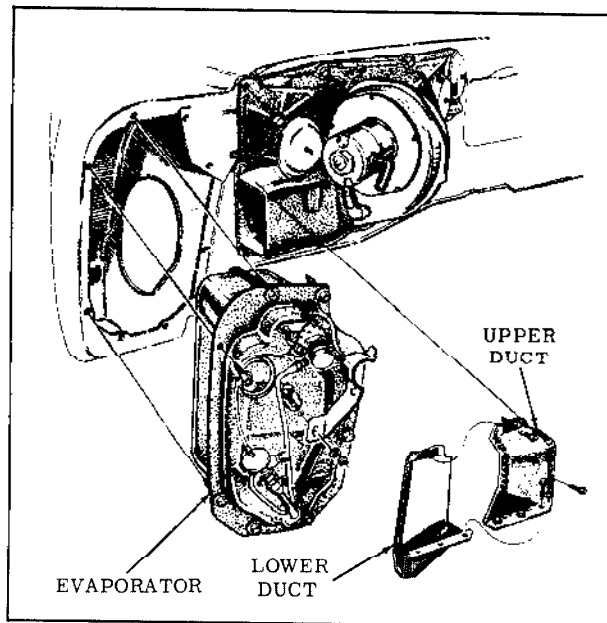

Fig. 14-33 Evaporator Removal
4. Remove six screws from evaporator to blower connecting duct, then remove upper section of duct. (Fig. 14-33)